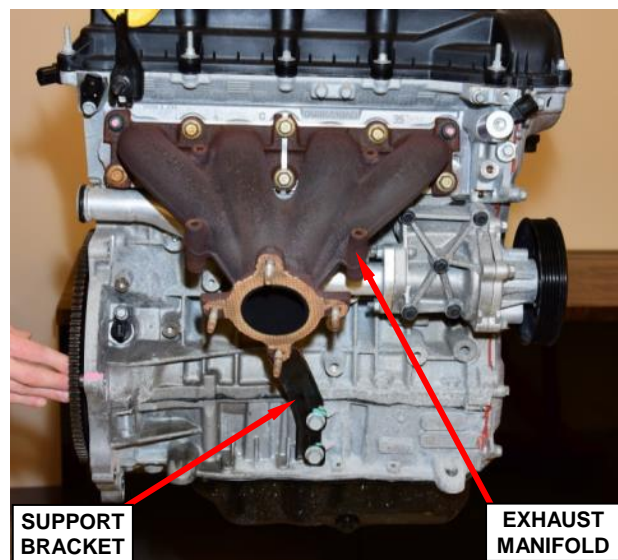

Figure 111 – Exhaust Manifold
d. Remove and save the two bolts and exhaust manifold support bracket (Figure 111).
e. Remove and discard the two nuts and six bolts fastening the exhaust manifold to the engine head (Figure 111).
- b. Position the exhaust manifold in place then use two new nuts and six new bolts to fasten the exhaust manifold to the cylinder head (Figure 111).
- d. Install the exhaust manifold support bracket and two bolts (Figure 111). Tighten the bolts to 18 ft. lbs. (24 N·m).